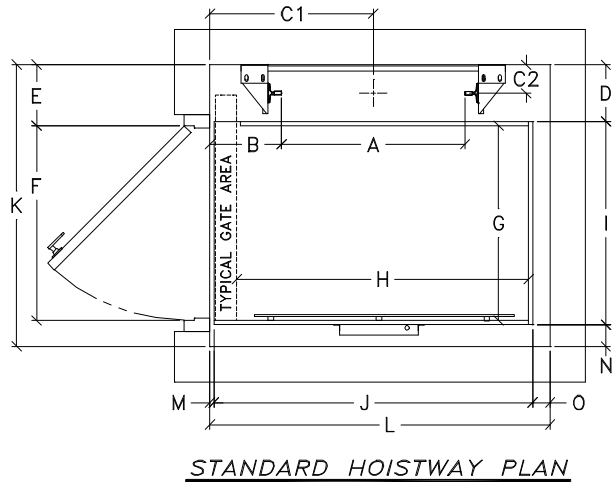

Figure 1
2. Check shop drawing (also in same packet) for location of center of the face of the rails in relation to the hoistway entrance. Mark on pit floor. Figure 1 shows locations of typical dimensions, but **CHECK SHOP DRAWING!** At this point it is advisable to suspend a plumb line from the ceiling so that it hits the marks, and check that the distance from the line to the back wall is no less than indicated on the drawing, and no more than 1/4" greater than indicated.